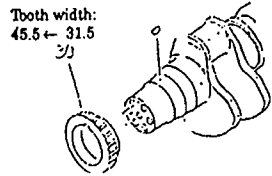

Fig. 6
(2) Change of crank gear (Fig. 6)